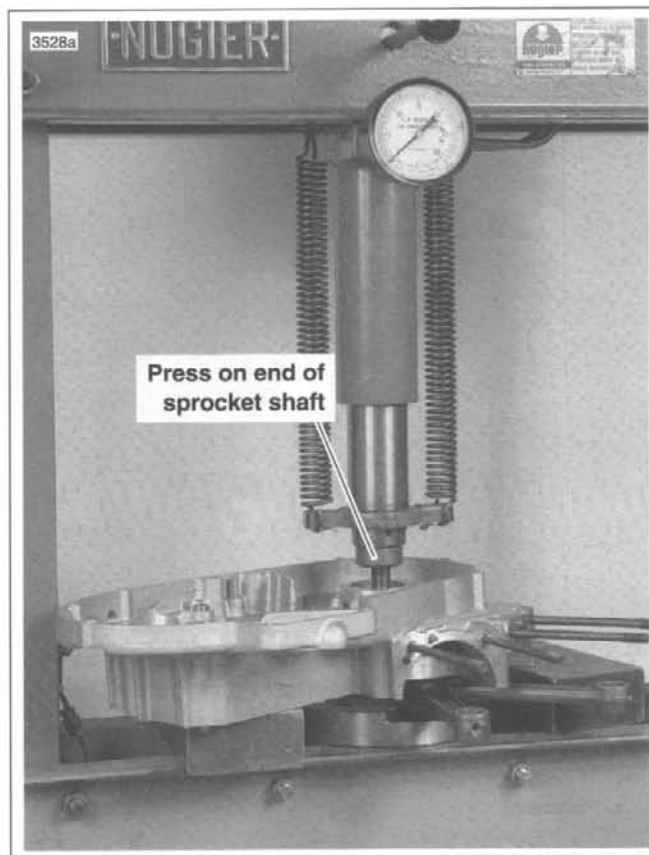

Figure 3-126. Pressing Flywheel from Crankcase
10. See Figure 3-126. Mount the left crankcase half and flywheel assembly on a press table, supporting crankcase on parallel bars. Press on end of sprocket shaft with arbor press until flywheel assembly is free from crankcase half. Do not drive flywheel assembly from crankcase half as flywheels may be knocked out of alignment.
See Figure 3-126. If it is necessary to remove either the pinion shaft bearing (11) or sprocket shaft bearing (4 and 9), proceed as follows: